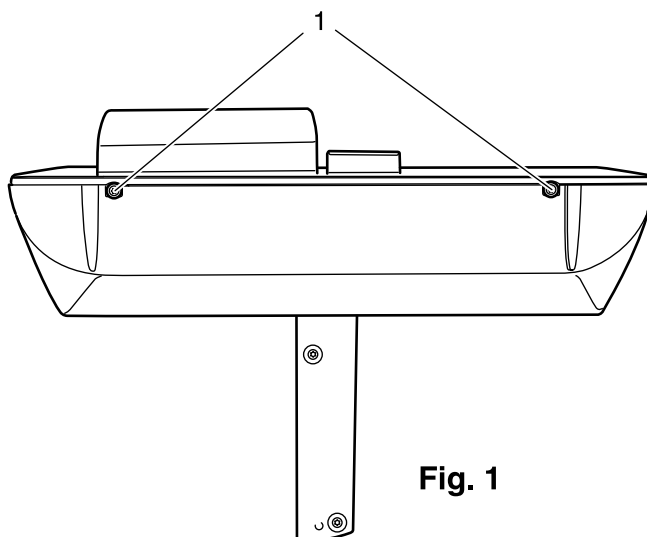

**Fig. 1**
1. Unscrew the two Torx screws 1 of the front cover (Fig. 1).